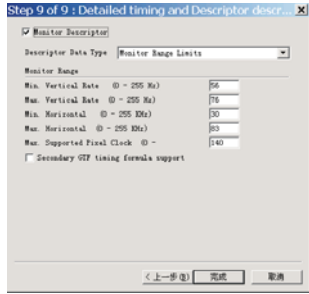

Fig. 43
8. Click Next , bring up Fig. 43.